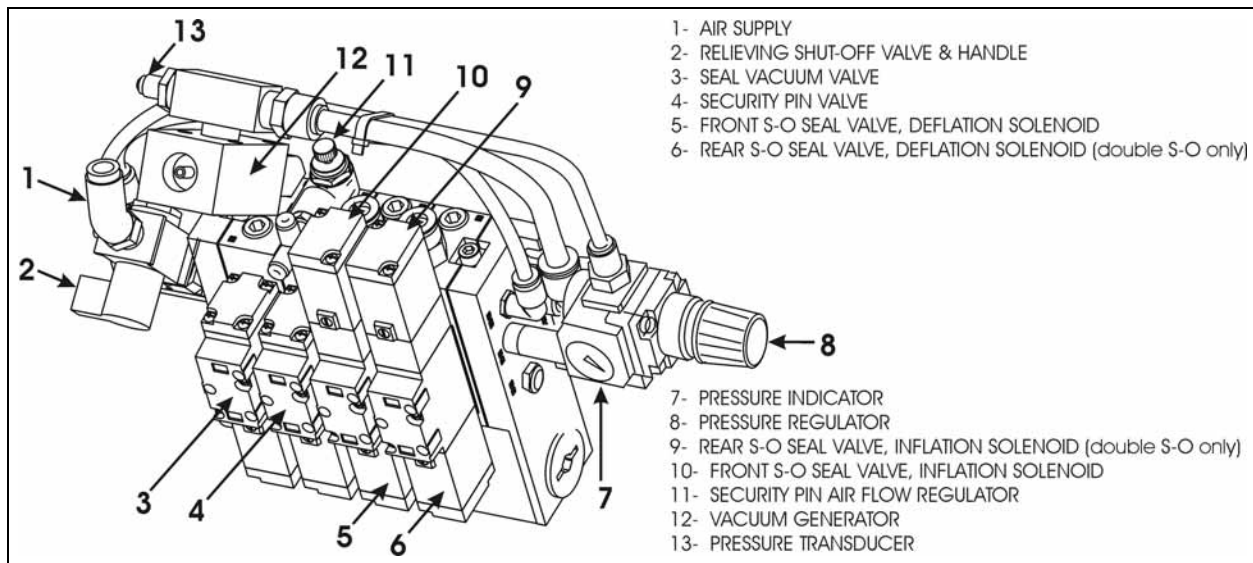

FIGURE 29: PNEUMATIC CONTROL UNIT
Make sure the inflatable seal is deflated when moving the slide-out manually during service maintenance. Deflate both inflatable seals completely by turning the relief shut-off valve handle clockwise (see FIGURE 29, item 2).
6. Manually deflate the seal completely by turning the relieving shut-off valve clockwise (FIGURE 29). Make sure the pressure indicator reading is "0 psi".